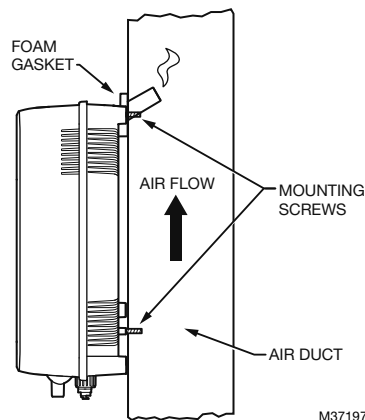

Fig. 17. Duct mount. Install foam gasket between humidifier and air supply duct.
3. Insert the top screw until 1/4 in. (6 mm) is exposed. Hang the humidifier via its keyhole on the screw head (see Fig. 17).